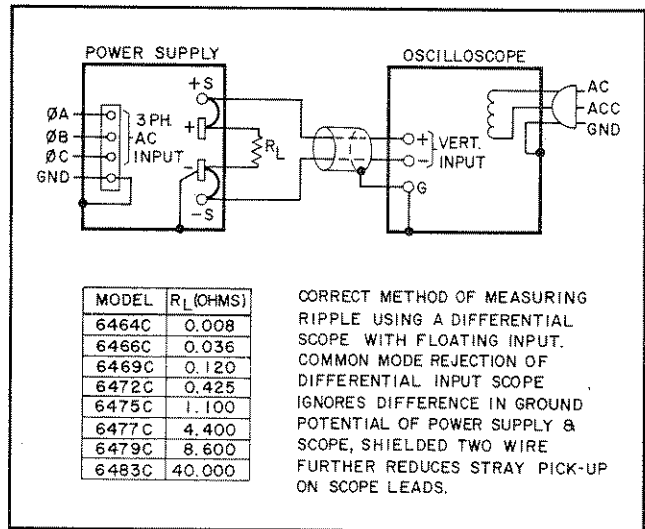
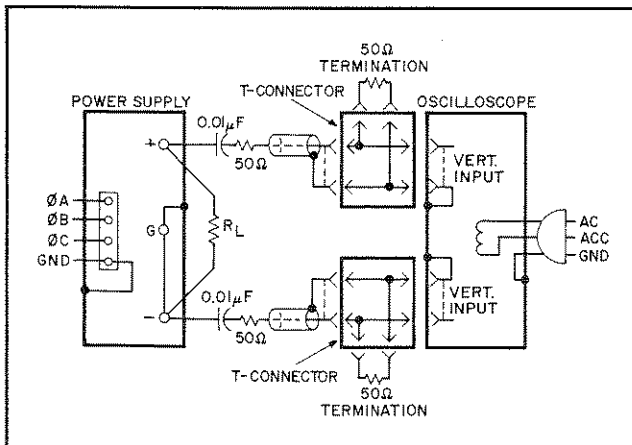

Figure 5-2. Ripple Test Setup
Figure 5-3. Noise Spike Measurement Test Setup
- Connect load resistor ( $R_L$ ) indicated in Figure 5-2 across output busbars.
5-17 Figure 5-2 shows the recommended method of measuring ripple using a differential scope. If desired, two single-conductor shielded cables may be substituted in place of the shielded two-wire cable with equal success. Because of its common mode rejection, a differential oscilloscope displays only the difference in signal between its two vertical input terminals, thus ignoring the effects of any common mode signal produced by the difference in the ac potential between the power supply case and scope case. Before using a differential input scope in this manner, however, it is imperative that the common mode rejection capability of the scope be verified by shorting together its two input leads at the power supply and observing the trace on the CRT. If this trace is a straight line, then the scope is properly ignoring any common mode signal present. If this trace is not a straight line, then the scope is not rejecting the ground signal and must be realigned in accordance with the manufacturer's instructions until proper common mode rejection is attained.
- Connect oscilloscope or rms voltmeter as shown in Figure 5-2.
**5-21** The test setup illustrated in Figure 5-2 is generally not acceptable for measuring spikes:
- As shown in Figure 5-3, two coax cables must be substituted for the shielded two-wire cable.
**5-22** The circuit of Figure 5-3 can also be used for the normal measurement of low frequency ripple; simply remove the four terminating resistors and the blocking capacitors and substitute a higher gain vertical plug-in in place of the wide-band plug-in required for spike measurements. Notice that with these changes, Figure 5-3 becomes a two-cable version of Figure 5-2.